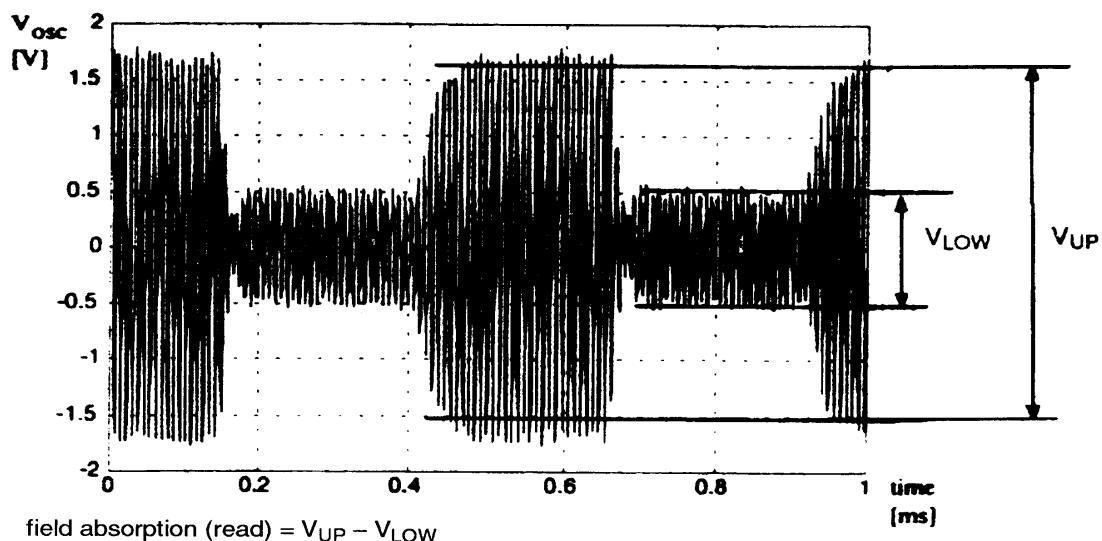

Fig.6 Modulation caused by transponder.
- The difference of the voltages between sensing coils and reference coils ($V_{sense} - V_{reference}$) is proportional to the magnetic flux density absorbed by the transponder. The proportional factor is as given above ($8.9 \mu\text{Wb}/\text{m}^2/V_{pp}$). A typical oscilloscope is given in Fig.6.